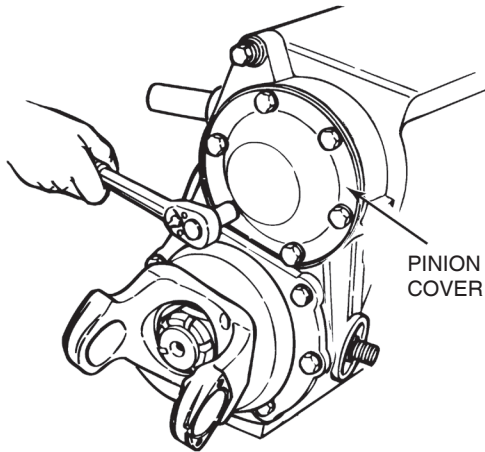

Figure 3.18
2. Remove the capscrews and the washers that fasten the drive pinion cover to the differential. Remove the cover. Remove all gasket material from the cover and the differential. Figure 3.18.